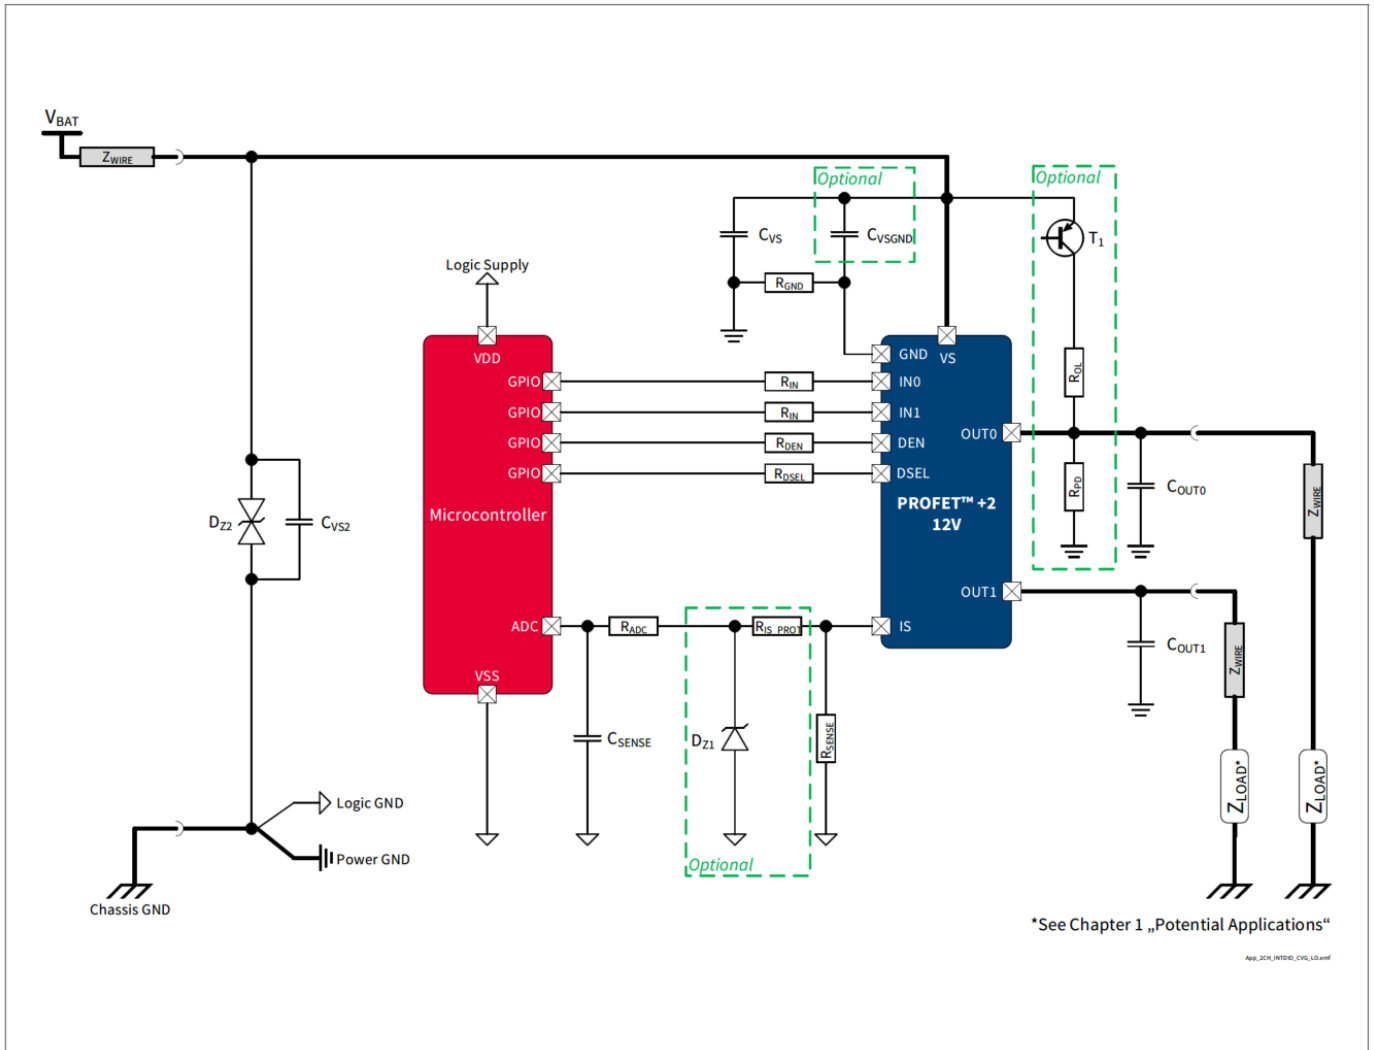

Figure 43 BTS7030-2EPA Application Diagram
1.05, 2019-10-15	<p>P_8.7.5.1, P_8.7.5.7, P_8.7.5.8 updated (added in Note or Test Condition: link to Figure 25)</p> <p>P_7.5.5.4, P_7.5.5.5 updated (added in Note or Test Condition: DEN = “low”; link to Figure 19)</p> <p>P_7.5.5.12 updated (added in Note or Test Condition: see Figure 21; deleted unnecessary space in Symbol: <math> dV_{OUT} / dt </math> → <math> dV_{OUT} / dt </math>)</p> <p>P_8.7.5.6 updated (added in Note or Test Condition: see Figure 26)</p> <p>P_9.7.5.1 updated (added in Note or Test Condition: See Figure 34)</p> <p>P_9.7.5.6 updated (Min./Typ./Max.: -40%/2700/+40% → -27.5%/2675/+27.5%)</p> <p>P_9.7.5.8 updated (Min./Typ./Max.: -35%/2700/+35% → -23.5%/2675/+23.5%)</p> <p>P_9.7.5.9 updated (Min./Typ./Max.: -31%/2700/+31% → -22.0%/2675/+22.0%)</p> <p>P_9.7.5.12 updated (Min./Typ./Max.: -28%/2700/+28% → -21.5%/2675/+21.5%)</p> <p>P_9.7.5.15 updated (Min./Typ./Max.: -16%/2700/+16% → -10.0%/2675/+10.0%)</p> <p>P_9.7.5.18 updated (Min./Typ./Max.: -7%/2700/+7% → -5.5%/2715/+5.5%)</p> <p>P_9.7.5.20 updated (Min./Typ./Max.: -5%/2700/+5% → -3.8%/2715/+3.8%)</p> <p>P_7.5.5.11 updated (added in Note or Test Condition: see Figure 19)</p> <p>Figure 1, Figure 43 updated</p> <p>Chapter 1 updated (or LED equivalent → or equivalent electronic loads (e.g. LED modules))</p> <p>P_4.3.0.7 added</p> <p>Table 24 updated</p> <p>Chapter 5.1 updated (added: see Chapter 10 for the complete application setup overview)</p>